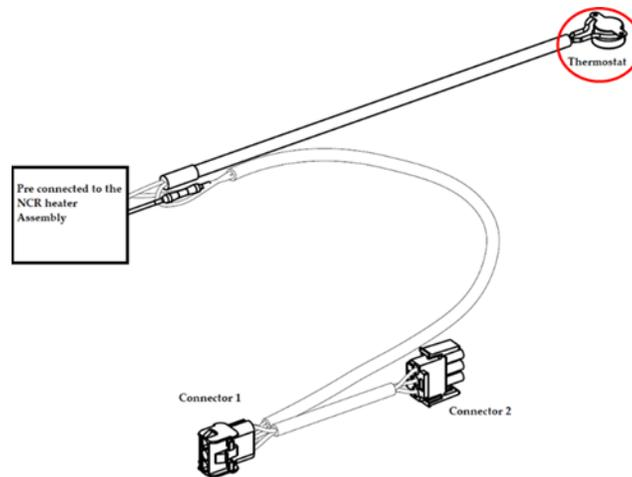
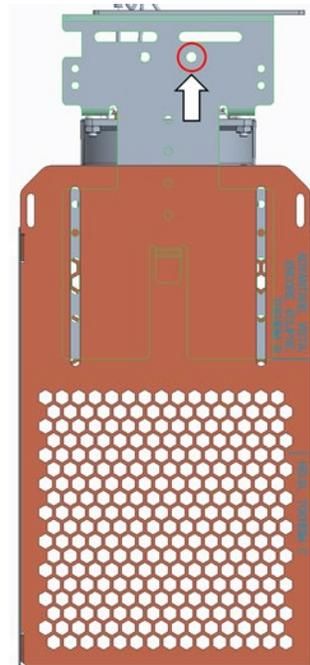

Figure 99
Figure 100
8. Position thermostat (identified in Figure 99) at the following location as shown in Figure 100 and secure with provided cable tie (006-8616073).